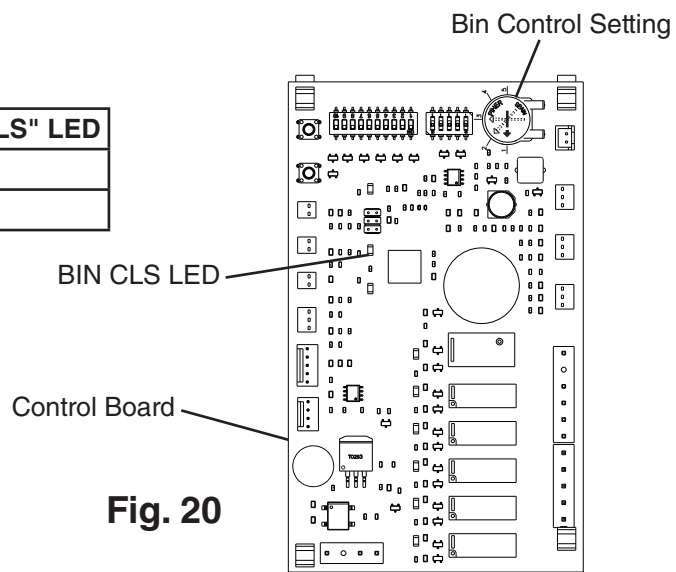

Fig. 20
- 4) Confirm the control board "BIN CLS" LED is off (bin empty). See Fig. 20.